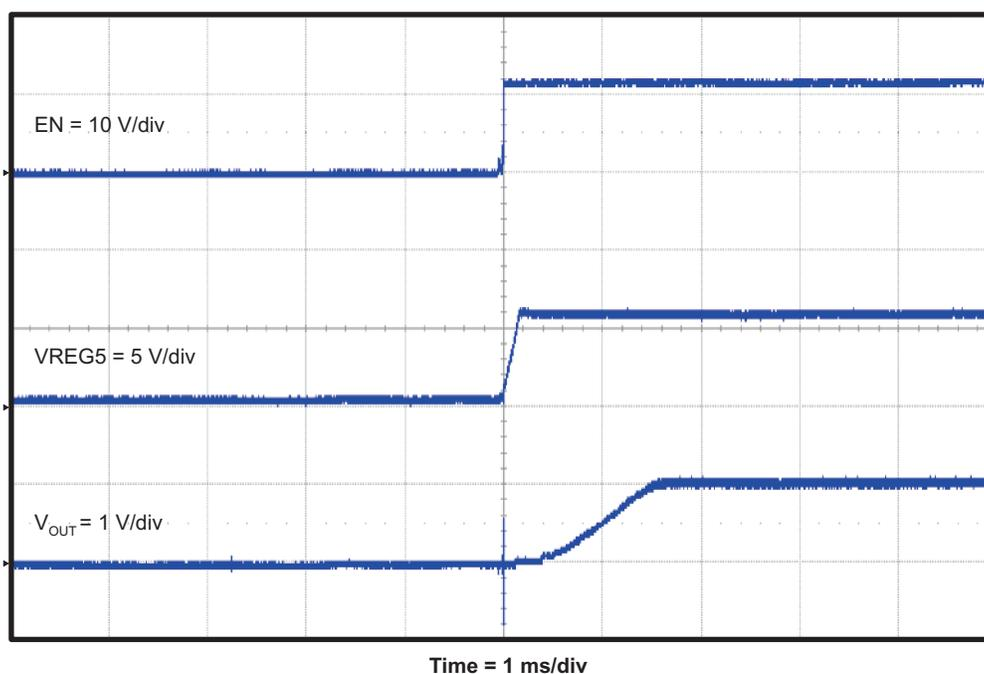

Figure 9. TPS54526EVM-608 Start Up Relative to Enable
The TPS54526EVM-608 start up waveform relative to enable (EN) is shown in Figure 9.